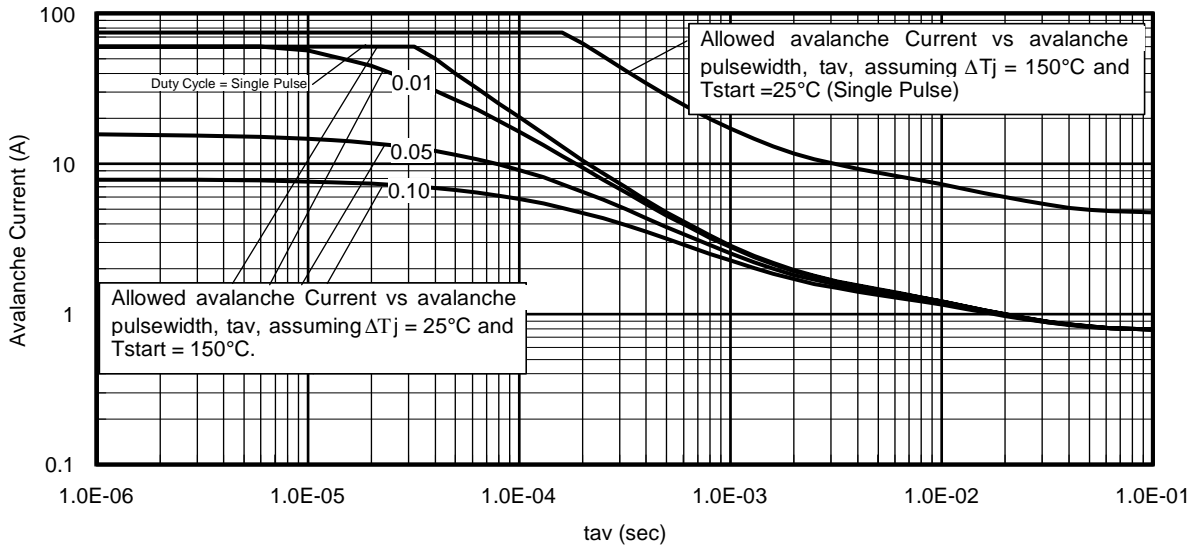

Fig 14. Typical Avalanche Current vs. Pulsewidth
| I _{AR} | Avalanche Current ① | See Fig. 14, 15, 16a, 16b, | A |
Notes on Repetitive Avalanche Curves , Figures 14, 15:
7. ΔT = Allowable rise in junction temperature, not to exceed T_{jmax} (assumed as $25^{\circ}C$ in Figure 14, 15).